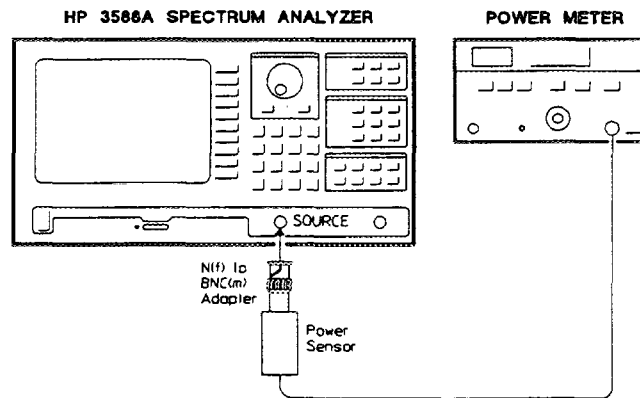

Figure 3-12. High Frequency Response Setup
13. Connect the test equipment as shown in figure 3-12.